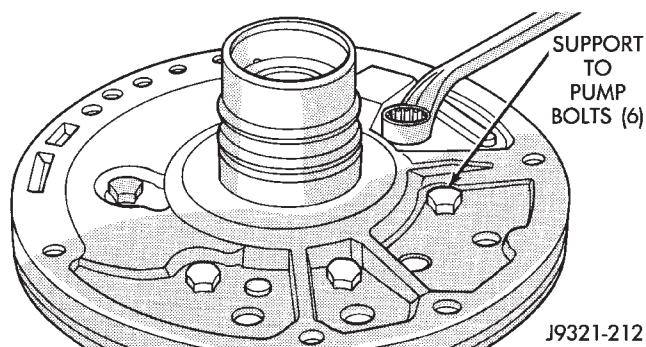

Fig. 37 Loosening Pump Support Bolts
- (2) Loosen bolts that attach pump body to support (Fig. 37).